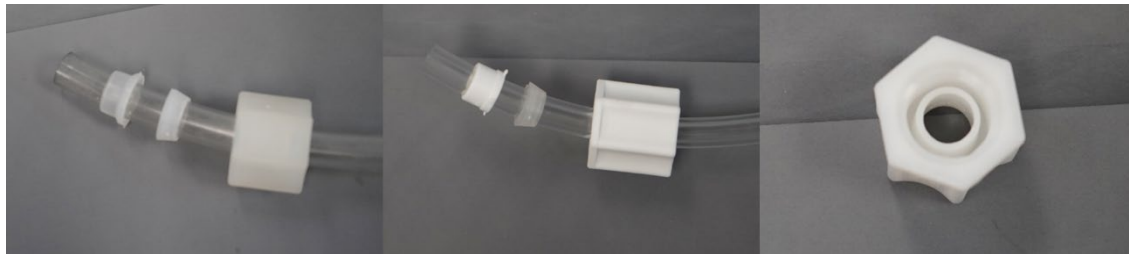

Figure 2-7. Compression Nuts with Separate (Left, Center) and Integrated (Right) Ferrules
Every tubing end connection (1,2,3,4,5,6) is made with a compression-type fitting. The connections into the cell housing are made with $\frac{1}{4}$ " (4) and $\frac{3}{8}$ " (5 & 7) pipe thread. One important consideration is that most compression fittings have three separate parts which must be kept in the correct order on the tubing end. Some compression nuts have an integrated sleeve instead of separated ferrules. See Figure 2-7.